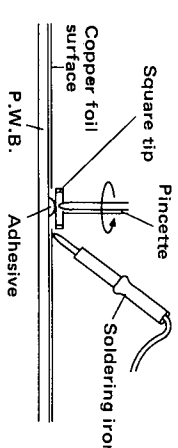

Figure 20-4
- Holding the tip with a pincette, take it off gently using the soldering iron's heat applied on each terminal of it. See Figure 20-4.